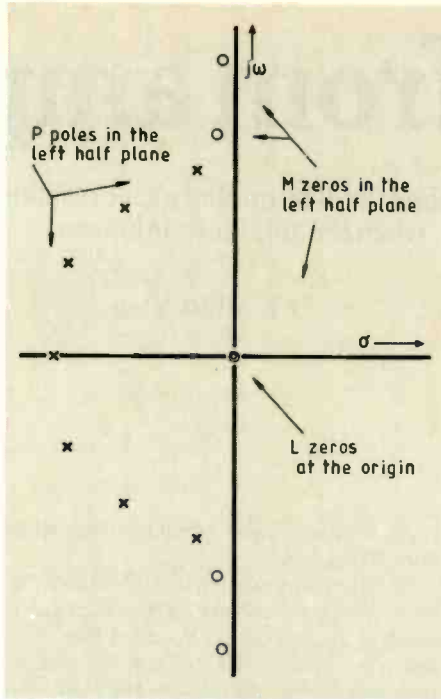

Fig.3. General diagram of input characteristic of a network, $F(s)$, showing typical grouping of poles and zeros in the s -plane.
- Figure 3 gives a general schematic of $f(s)$,